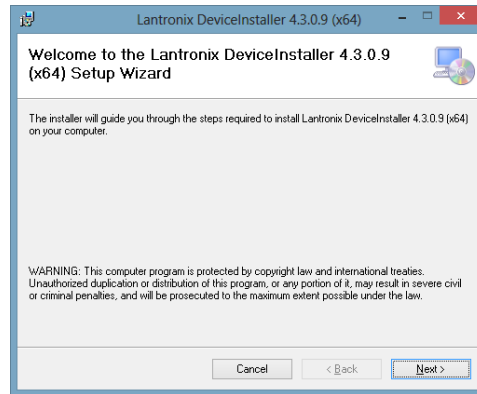

Fig 3.4.1
3.4 In fig 3.4.1, click “Next” to proceed.